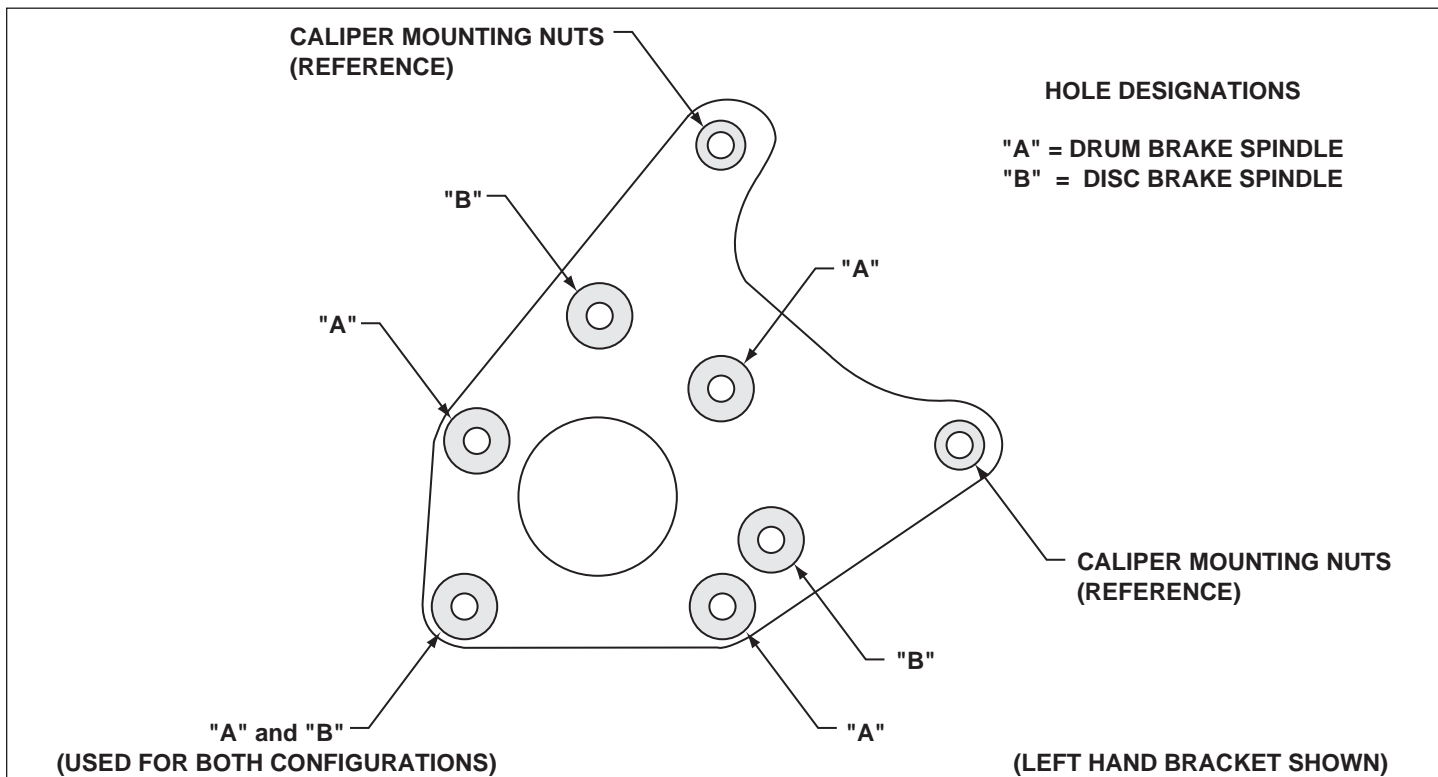
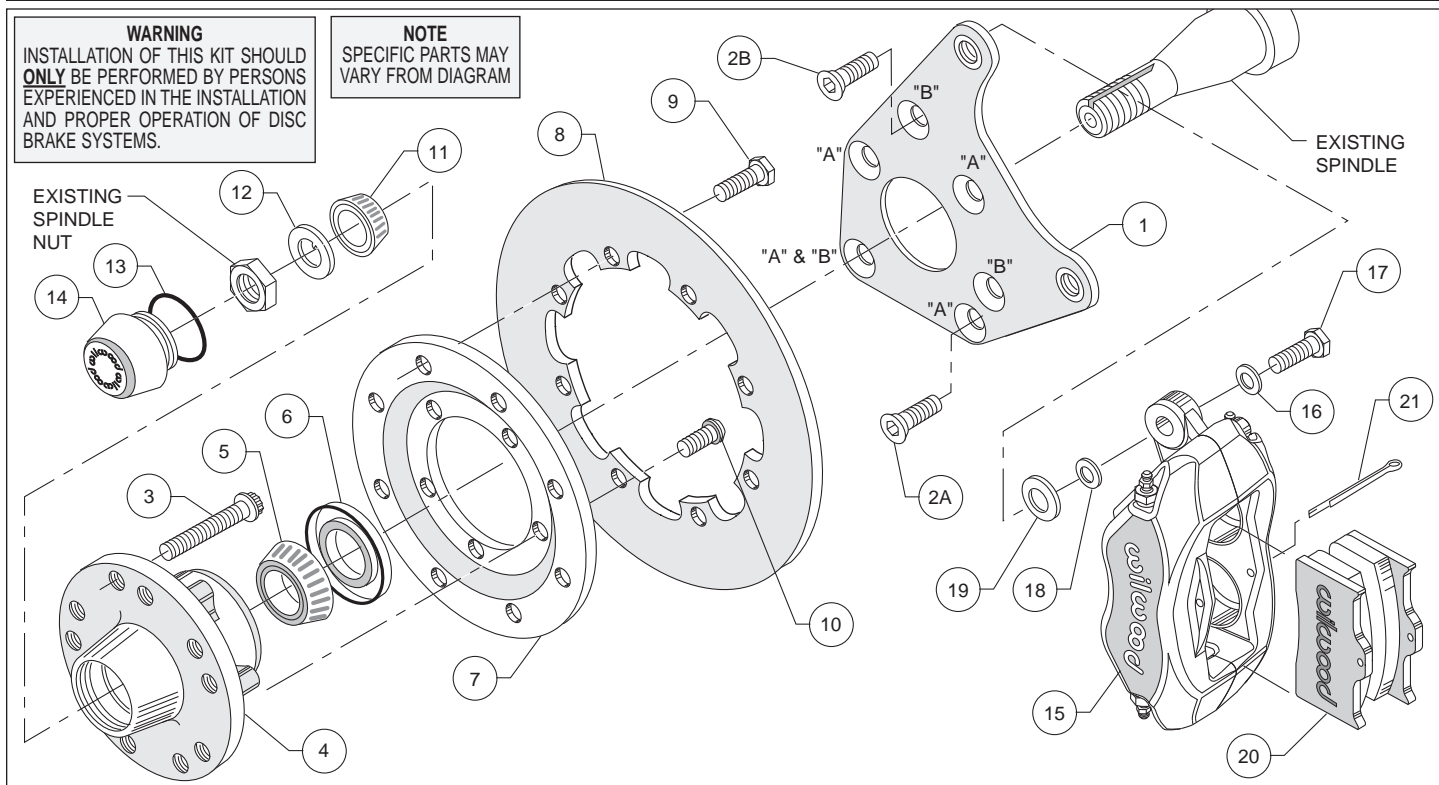

Figure 1. Wilwood Caliper Mounting Bracket
Figure 2. Typical Installation Configuration
This kit has been designed for use with both the disc brake or the drum brake configuration of vehicle. The only difference is in how the Wilwood caliper mounting bracket is installed. The same bracket is used for both configurations; the disc brake version utilizes three mounting holes while the drum brake application uses four mounting holes (see Figure 1). For your convenience we have supplied bolt kits for both applications (see parts list and Figure 2 as necessary, item(s) 2A and 2B). Use the bolt kit that is applicable to your vehicle and disregard the other one.
These modifications should be performed by a qualified machinist and completed before assembly of the Wilwood disc brake kit begins. Using the caliper mounting bracket as a template (refer to figure 1 as necessary), locate and verify the three original stock holes on the steering arm that need to be modified. Drill a .332 diameter hole through all three holes, then tap 3/8-24 UNF (fine thread). Countersink the holes to .438 x 90°.
- As mentioned before, this kit uses the same mounting bracket (1) for both the drum and disc brake spindle. The drum version utilizes four mounting bolts (designated with a "A"), while the disc only requires three (designated with a "B"). Refer to figure 1 and figure 2 as required for the basic installation position of the bracket and the "A" and "B" reference designations (these designations are not physically marked on the bracket, they are referenced on the drawings for your convenience) and align using the three or four holes (as applicable) to the face plate of the steering arm. Install bolts (2A or 2B) through caliper mounting bracket (1) into steering arm, finger tighten only. After you are positive of the bracket (1) alignment, remove the mounting bolts (2A or 2B) one at a time and Apply red *Loctite*® 271 to bolt threads (2A or 2B), then reinstall. Torque bolts (2A or 2B) to 30 ft-lb. **NOTE:** Be sure the heads of the bracket (1) insert nuts are facing outward toward the wheel.
- Install wheel studs (3) into the hub (4). Torque to 77 ft-lb. **NOTE:** There are two (2) five lug patterns in the hub (5 x 4.50 and 5 x 4.75). Make sure of the correct hole pattern for the correct wheel application before installing studs into hub.
- Pack the large inner bearing cone (5) with high temperature disc brake bearing grease (available from your local auto parts store) and install into the backside of the hub (4).
- Install the grease seal (6) by pressing into the backside of the hub (4).
- Mount the adapter/rotor assembly (7/8) to the hub (4) using bolts (10) (finger tight), as shown in Figure 1. Using an alternating sequence, remove bolts one at a time, apply red *Loctite*® 271 to the threads, and torque to 45 ft-lb.
- Pack the small outer bearing cone (11) with high temperature disc brake bearing grease and install into front of hub (4). Slide the hub/rotor assembly (4 and 8) with outer bearing cone (11) onto the spindle. Secure using spindle washer (12), stock adjusting nut and nut locking device. Adjust bearings per Original Equipment Manufacturer (OEM) specifications.
- Install the o-ring (13) and then the dust cap (14) onto the hub (4). Friction created by the o-ring (13) on the dust cap (14) keeps it from unscrewing.